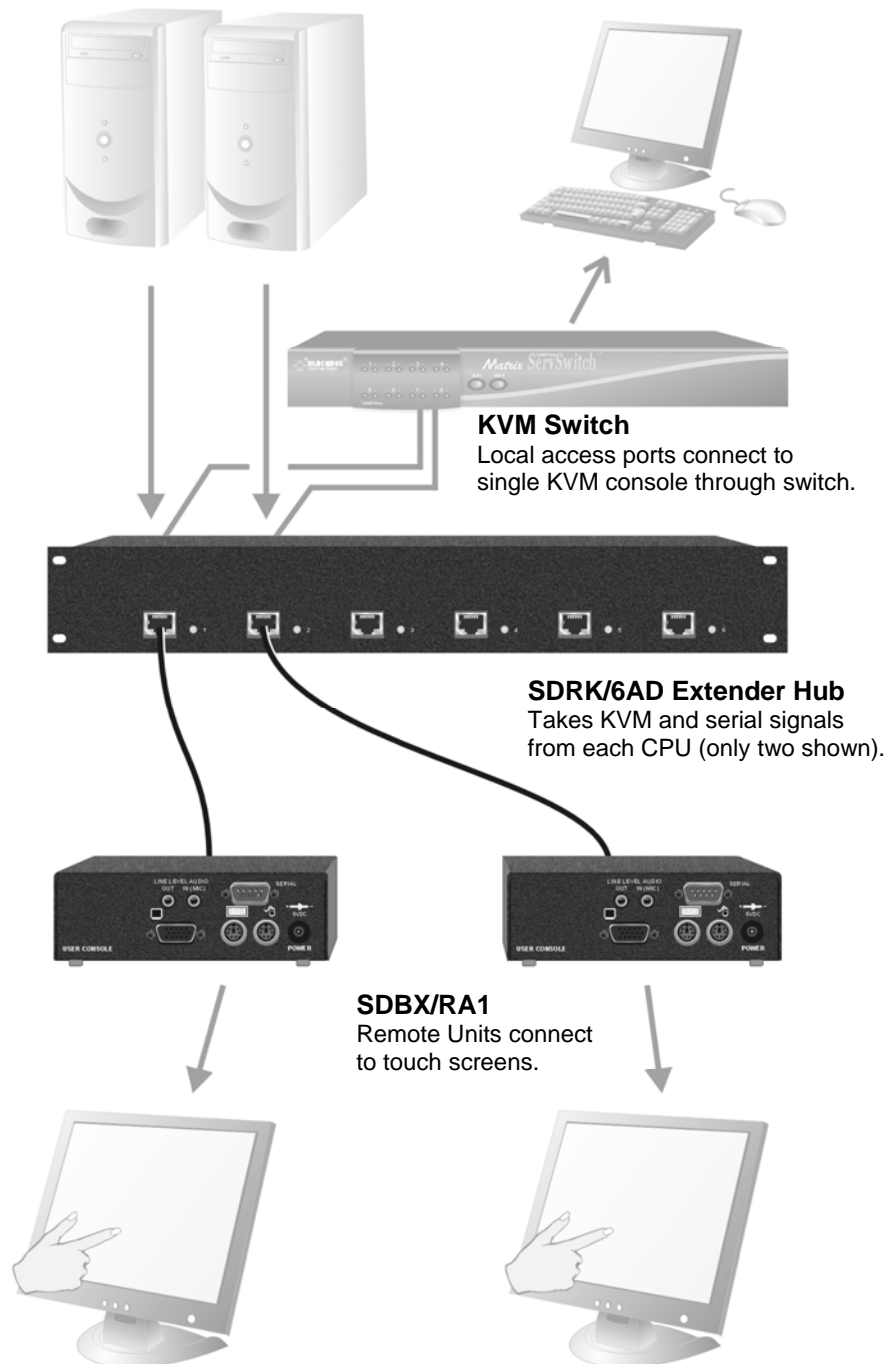

Figure 16 Touch screen network with local access to CPU through KVM switch
- Six remote serial touch screens with local access through a KVM switch (Figure 16).